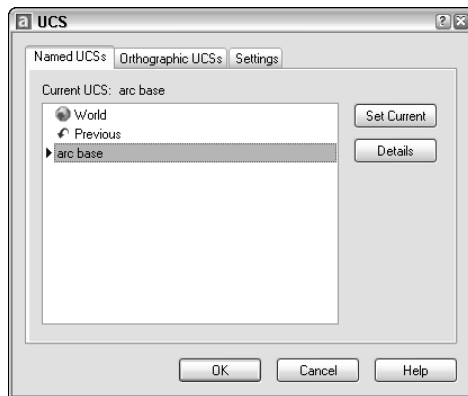

Figure 8-20: Use the UCS dialog box to save and restore a UCS.
2. Choose Tools ⇨ Named UCS to open the UCS dialog box with the Named UCSs tab on top, as shown in Figure 8-20. If your current UCS is not named, it is listed as *Unnamed* and highlighted. Previously named UCSs are also listed. You can also use this dialog box to return to the previous UCS or the World Coordinate System (WCS).